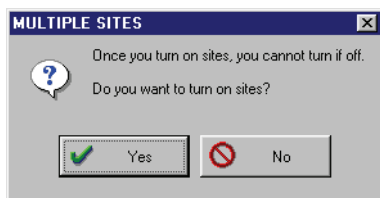

Figure 8-2: Sites On Confirmation Window
3. Click on the **Sites ON** box. A check mark appears in the box. Because the changes required to implement the sites feature make major changes to the *Doors* program and its supporting databases, a confirmation window appears making this reminder (see Figure 8-2).